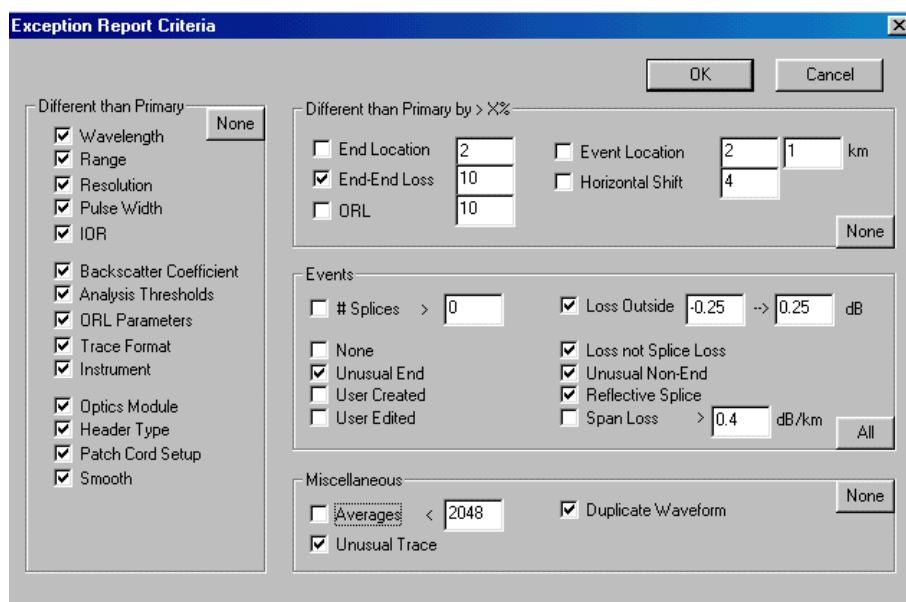

Figure 12-7: Exception Report Criteria Dialog Box
6. Set up the Exception Report Criteria dialog box as shown in Figure 12-7.